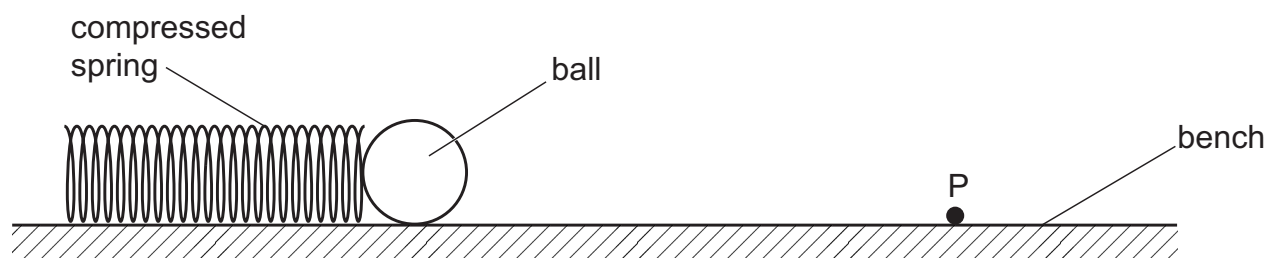

Fig. 1.1
- 1 On a bench, a steel ball of radius r is used to compress a spring by a distance x . The ball is held at rest in this position, as shown in Fig. 1.1.